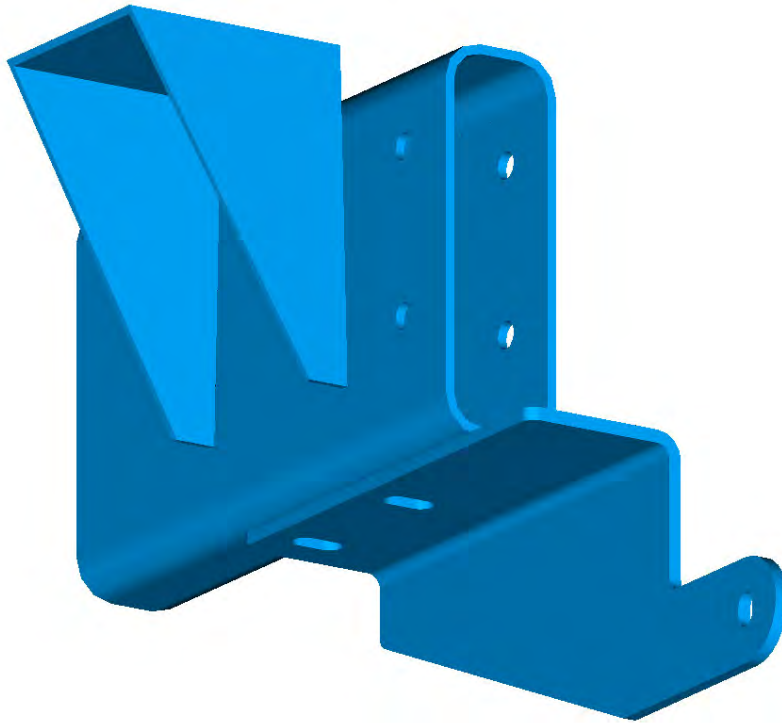

Figure 9 Right frame with Lower Brace in position
25. Attach the Side Members to the insides of the Side Member Brackets and Lower Braces. Use 7/16 x 1-1/4” carriage bolts, lock washers and nuts (use nylon lock nuts without washers for Stainless Side Members. See **Figure 9**